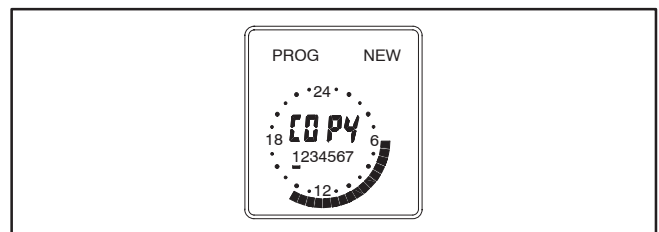

FIGURE 15. COPY EXERCISE MENU
- 1.. Once a set exercise program has been saved, press the selector button (➤) to display the copy menu (see Figure 15).